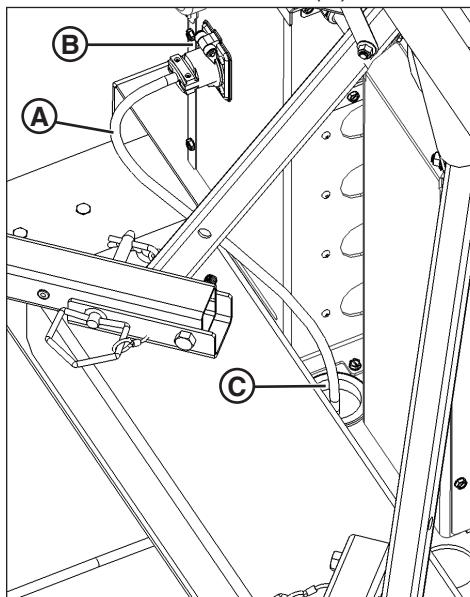

Figure 8
2. Connect a heavy-duty, exterior-use power cord (A, Figure 8) from the power inlet on the side of the unit (**B**) to a 120-volt AC power source. See **Specifications**.